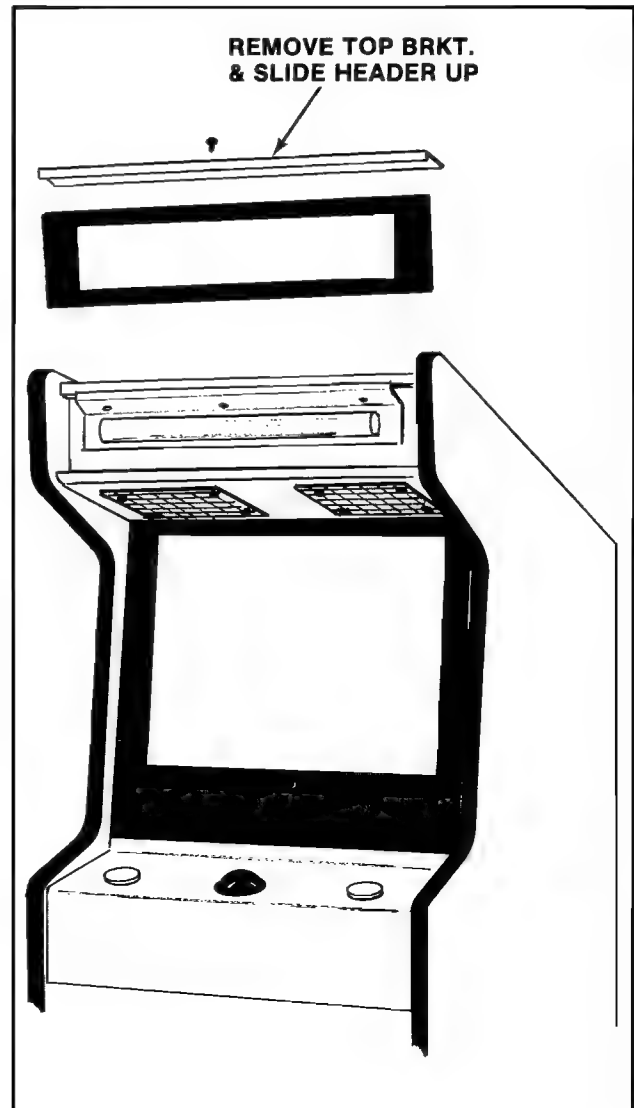

Figure 2-26 Opening the Attraction Panel - Upright
2.9.1 UPRIGHT MODEL: (See Figure 2-26)
Remove the screws which secure the top bracket in place. (They are on its top side.) See Figure 2-26.